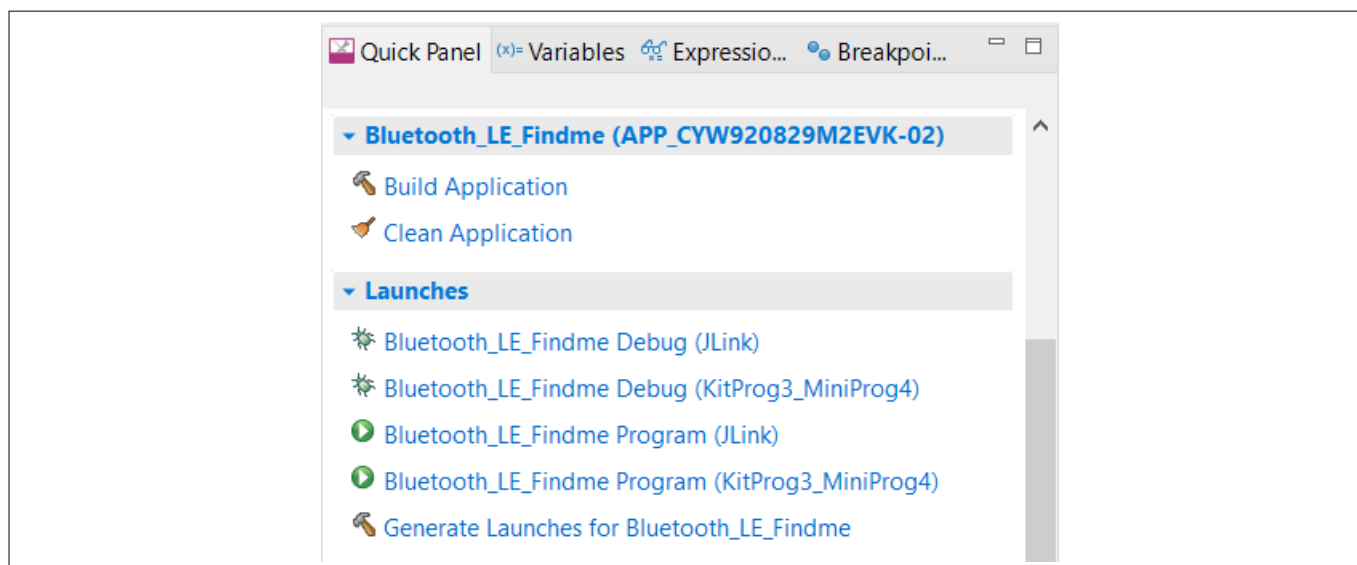

Figure 31 Programming the CYW920829M2EVK-02 device from ModusToolbox™
2. Build and program the application: In the project explorer, select the **<App Name>_LE_Findme** project. In the Quick Panel, scroll to the **Launches** section, and click the **<App Name> Program(KitProg3_MiniProg4)** configuration as shown in Figure 31.